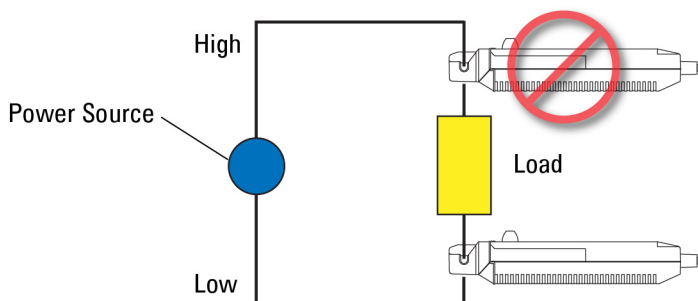

Figure 7 Clamp Onto the Low-Voltage Side of Circuit
- At high frequencies, common mode noise may affect measurements taken on the high voltage side of circuits. If this occurs, reduce the frequency range of the measuring instrument or clamp onto the low-voltage side of the circuit as shown in Figure 7, as appropriate.